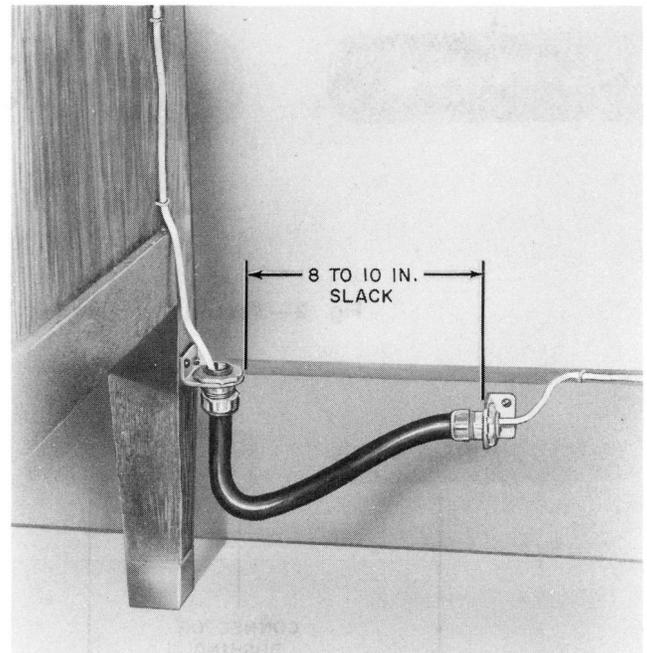

Fig. 1—Wiring to Desk-Station Tubing
2.01 When a desk or table is located near a wall, station wire or inside wiring cable may be extended by using C-type station tubing (Fig. 1) or a standard mounting cord. ♦Modular cords may require taping or the use of other fasteners shown in this section—they cannot be run through station tubing because of the modular jacks.♦